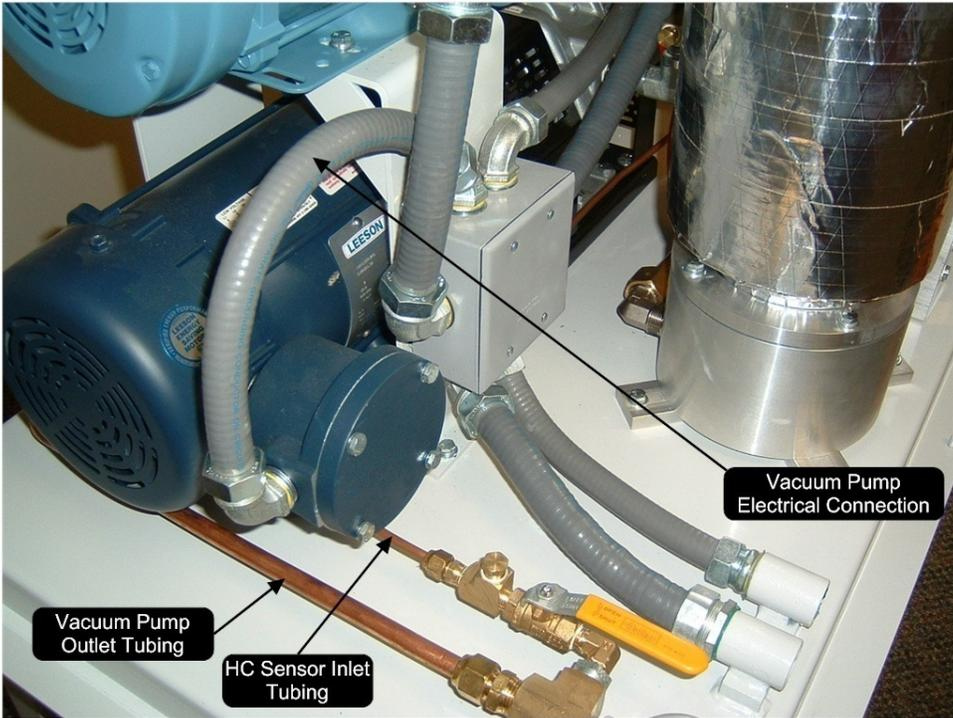
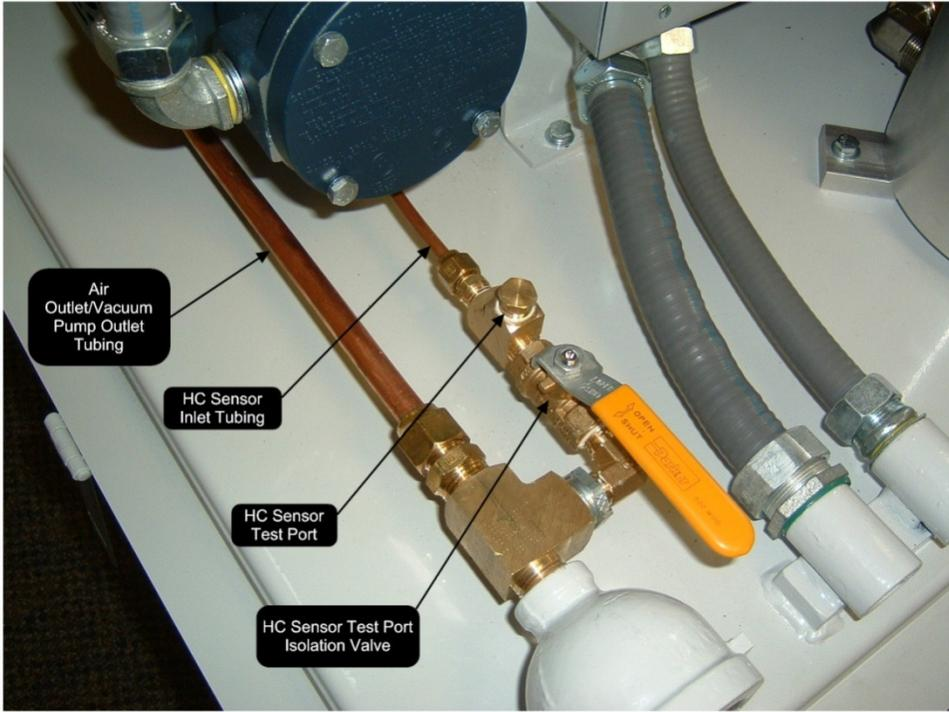

Figure 29: Vacuum pump electrical connection / vacuum pump outlet tubing / HC sensor inlet tubing
Figure 30: Air outlet / vacuum pump outlet / HC sensor inlet tubing
- See Figure 29 and Figure 30.
9. Remove (4) ¼” x 1-½” mounting bolts from the vacuum pump motor assembly base plate.
- **Keep the (4) bolts for reuse or replace with new.**
- See Figure 29.